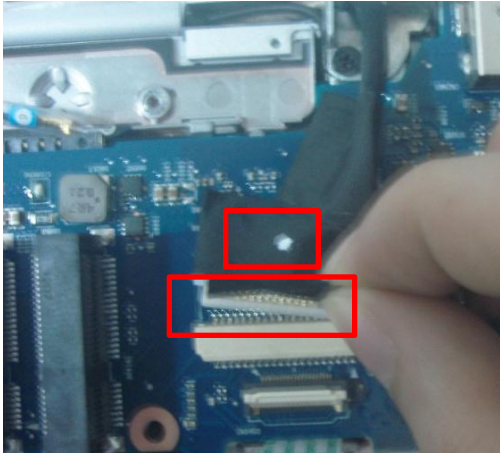

Fig.1
1. Disassemble LCM cable from M/B. (Fig.1)